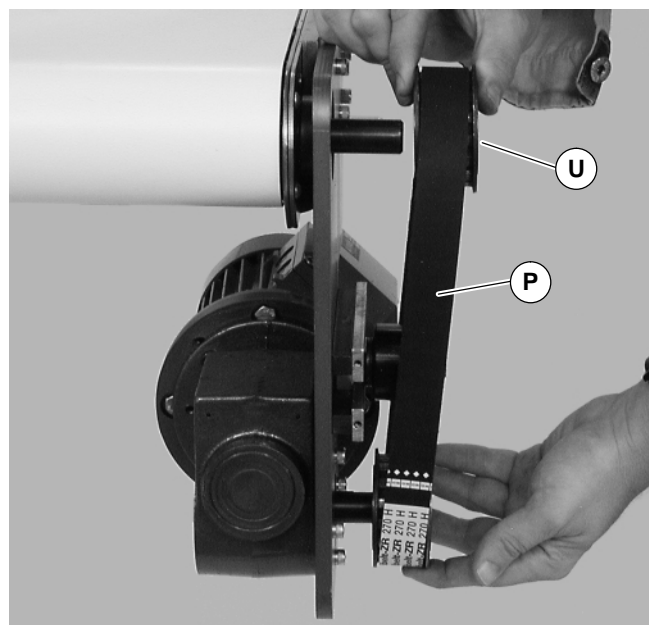

Figure 13
3. Remove timing belt (P of Figure 13).
**NOTE:** If timing belt does not slide over pulley flange, loosen driven pulley taper-lock screws (U of Figure 13) and remove pulley with belt (P). For re-installation, see steps 6 and 7 on beginning on page 6.